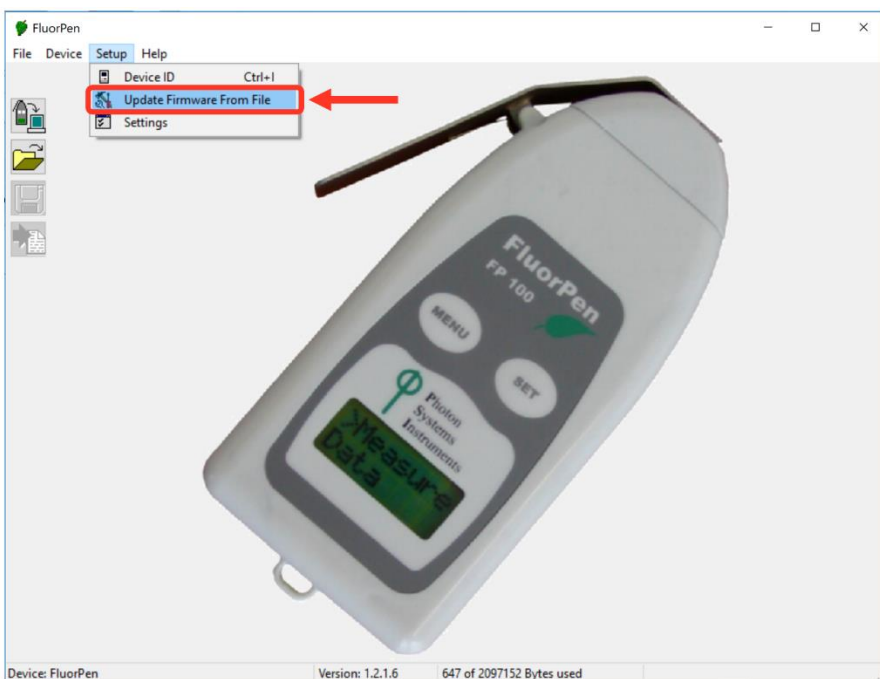

Fig. 29 Firmware Update.
- Select: **Setup > Update Firmware From File** (Fig. 29).